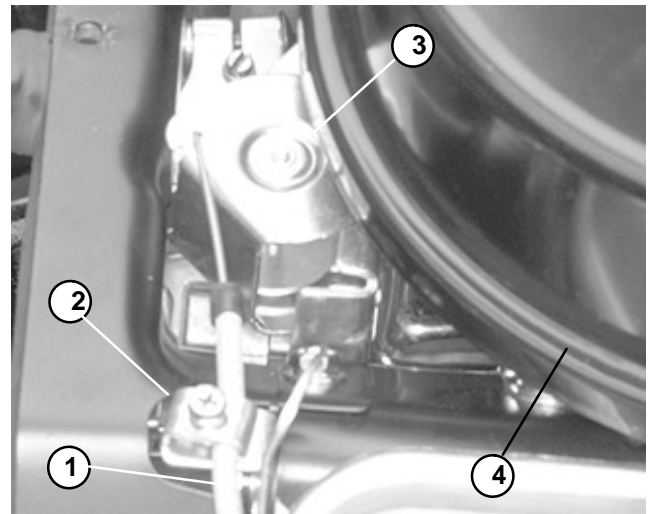

Figure 13
4. Release throttle cable from clamp securing it to the engine. Disconnect throttle cable from the swivel on the engine (Fig. 13).
2. Connect throttle cable to the swivel on the engine. Attach cable to engine with clamp. Make sure not to tighten cap screw securing clamp and cable to engine (Fig. 13).